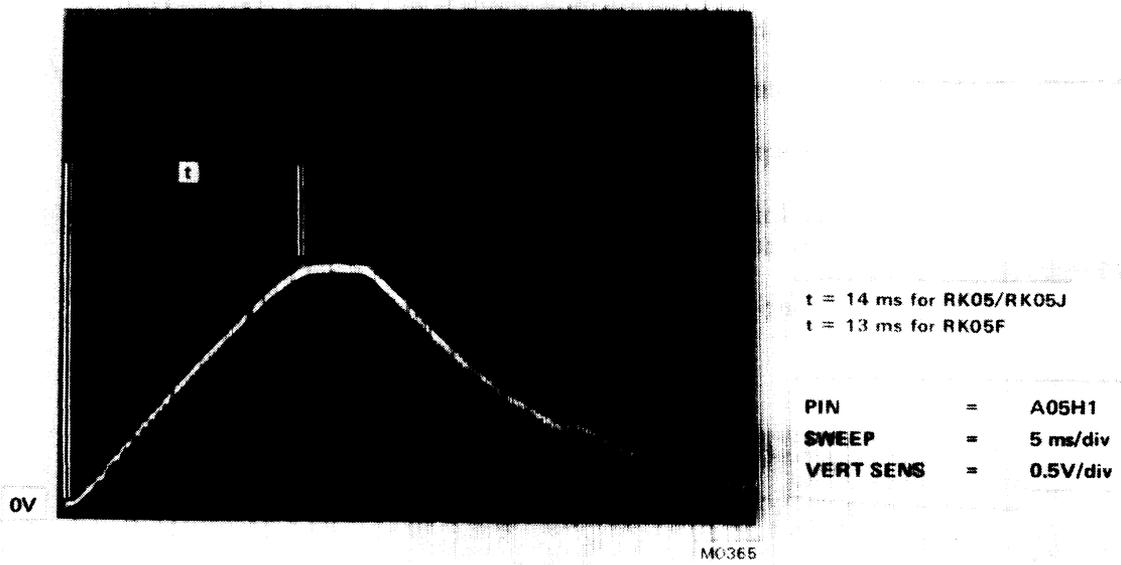

Figure 5-18 Acceleration Waveform
- c. Observe A05H1 (VELOCITY) for a velocity profile as shown in Figure 5-18.